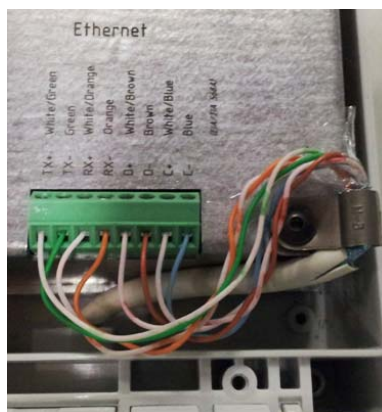

Figure 15: Detail of the connections for the Power through PoE.
- On the gateway side, the Ethernet cable (not included) must first be inserted into the case through the cable gland. Then, the cables must be unshielded and stripped, and connected into the terminal blocks in the correct order, as described on the Figure 15.